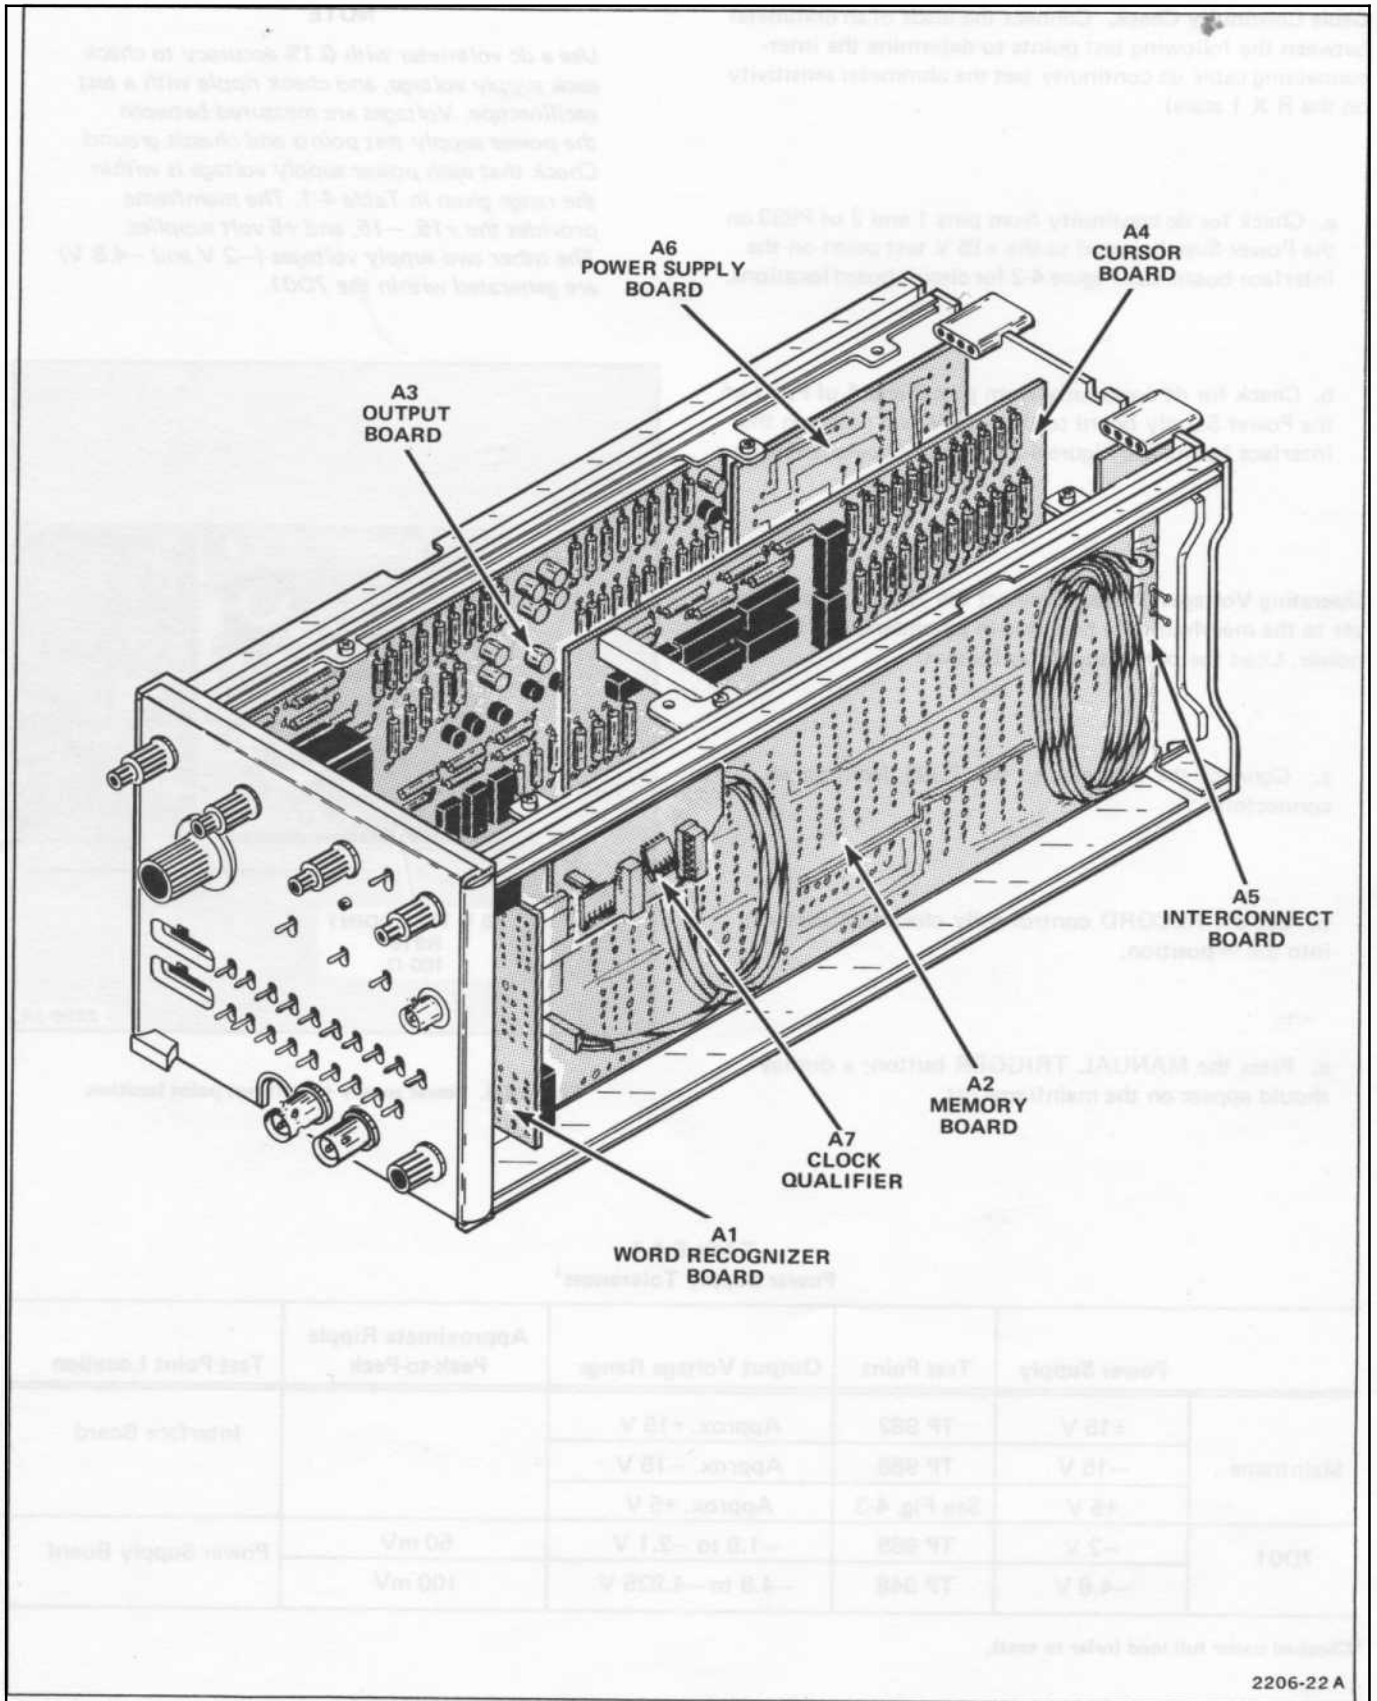

Figure 4-2. Circuit board locations.
- a. Check for dc continuity from pins 1 and 2 of P933 on the Power Supply board to the +15 V test point on the Interface board. See Figure 4-2 for circuit board locations.
- b. Check for dc continuity from pins 3 and 4 of P933 of the Power Supply board to the -15 V test point on the Interface board. See Figure 4-2 for circuit board locations.